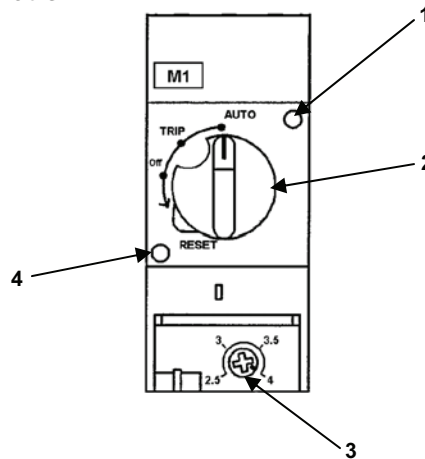

Figure 4. Motor Controller (raw water pump).
When the motor is running a flag can be seen through window (Figure 4, Item 1). In the event of a short circuit, a flag can be visible through window (Figure 4, Item 4) and the switch (Figure 4, Item 2) will be rotated to TRIP location. The switch should never be at OFF.
1. Inspect the location of the switch (Figure 4, Item 2) it should be set to AUTO.
- a. Rotate the switch (Figure 4, Item 2) counter-clockwise to RESET.
- b. Rotate the switch (Figure 4, Item 2) back to AUTO.
3. Ensure that the overload screw (Figure 4, Item 3) is set to “4”.
4. Turn the safety tab (Figure 4, Item 1) clockwise with the other hand. Do not let go of the safety tab (Figure 4, Item 1).
5. Turn the switch (Figure 4, Item 2) counter-clockwise. The safety tab (Figure 4, Item 1) and the switch (Figure 4, Item 2) should be squeezed together.